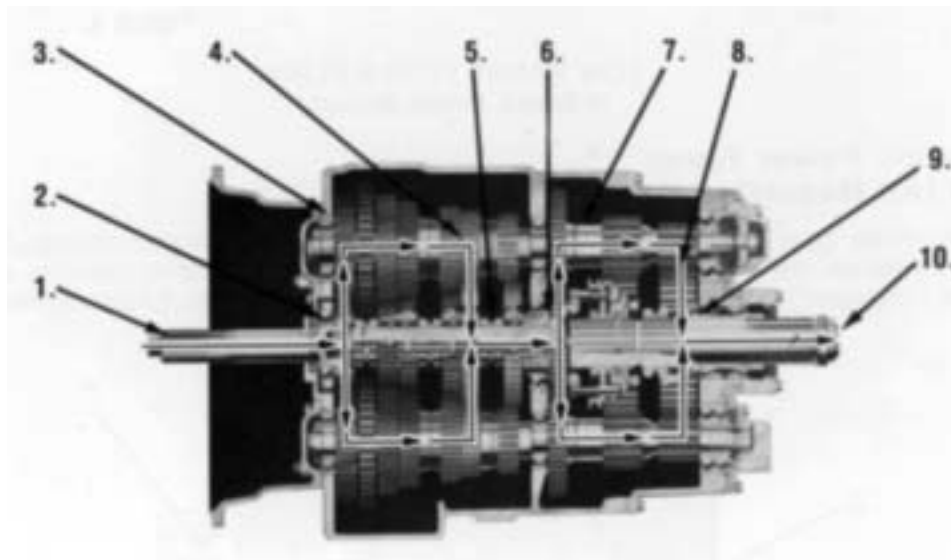

Figure 1.
4. Torque is delivered along both countershaft to mating countershaft gears of "engaged" mainshaft gear. The following cross section views (Figures 2-4) illustrate a 1st/5th speed gear engagement. Figure 1 illustrates the engagement of the Lo Speed Gear.